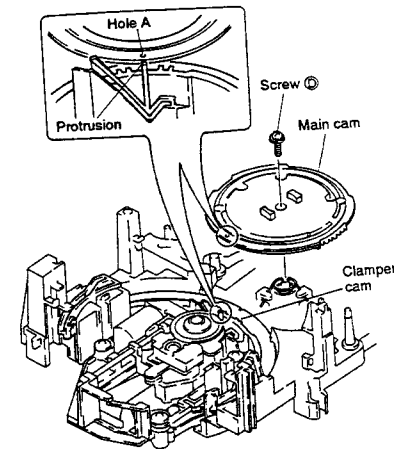

Fig. 2-3
- (1) As shown in Fig. 2-3, attach the main cam, trying to adjust the main cam hole A to the clamber cam protrusion. Next, hold it with screw ⑤.